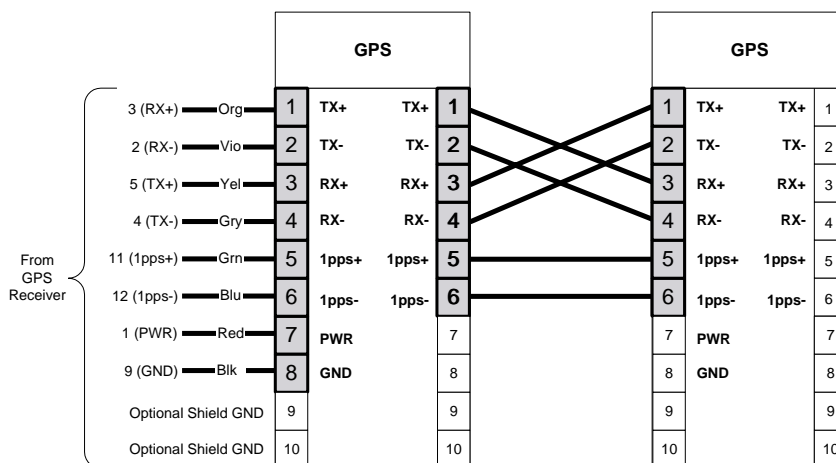

Figure 4-9 GPS Daisy Chaining Diagram
3. Connect the GPS cable between the two GPS daughter cards as shown in Figure 4-9. For the location of the GPS daughter cards see Figure 4-2 on page 4-5.